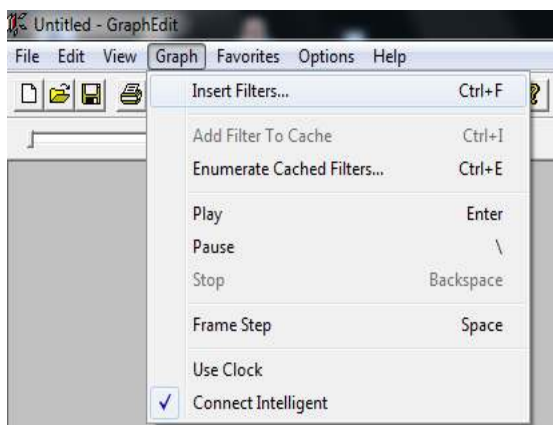

Figure 5.1 Graph Menu
- From the menu bar select Graph and select Insert Filters see *Fig 5.1*